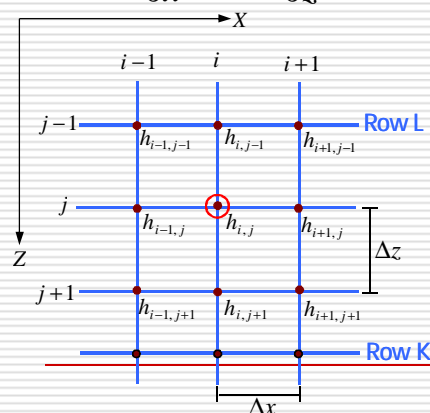

Fig. 3.1: Partial grid of the flow domain
- Let  $L$  be the top row and  $K$  be the bottom row of a vertical plane defined by column  $i$  (Fig. 3.1 slide 14). Then the expression for  $q$  is: